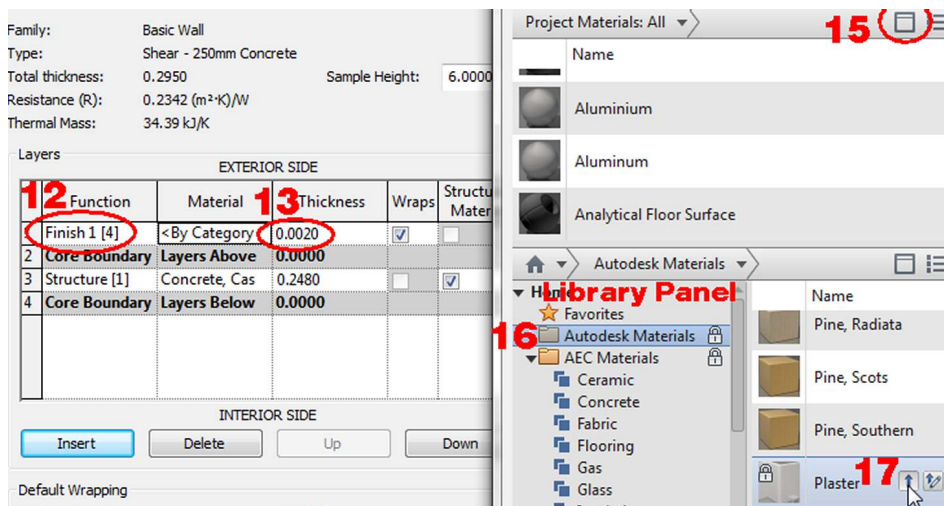

Fig. 2.12 – Edit Shear Wall material
12. Change Function to Finish 1 [4] (Fig. 2.12).